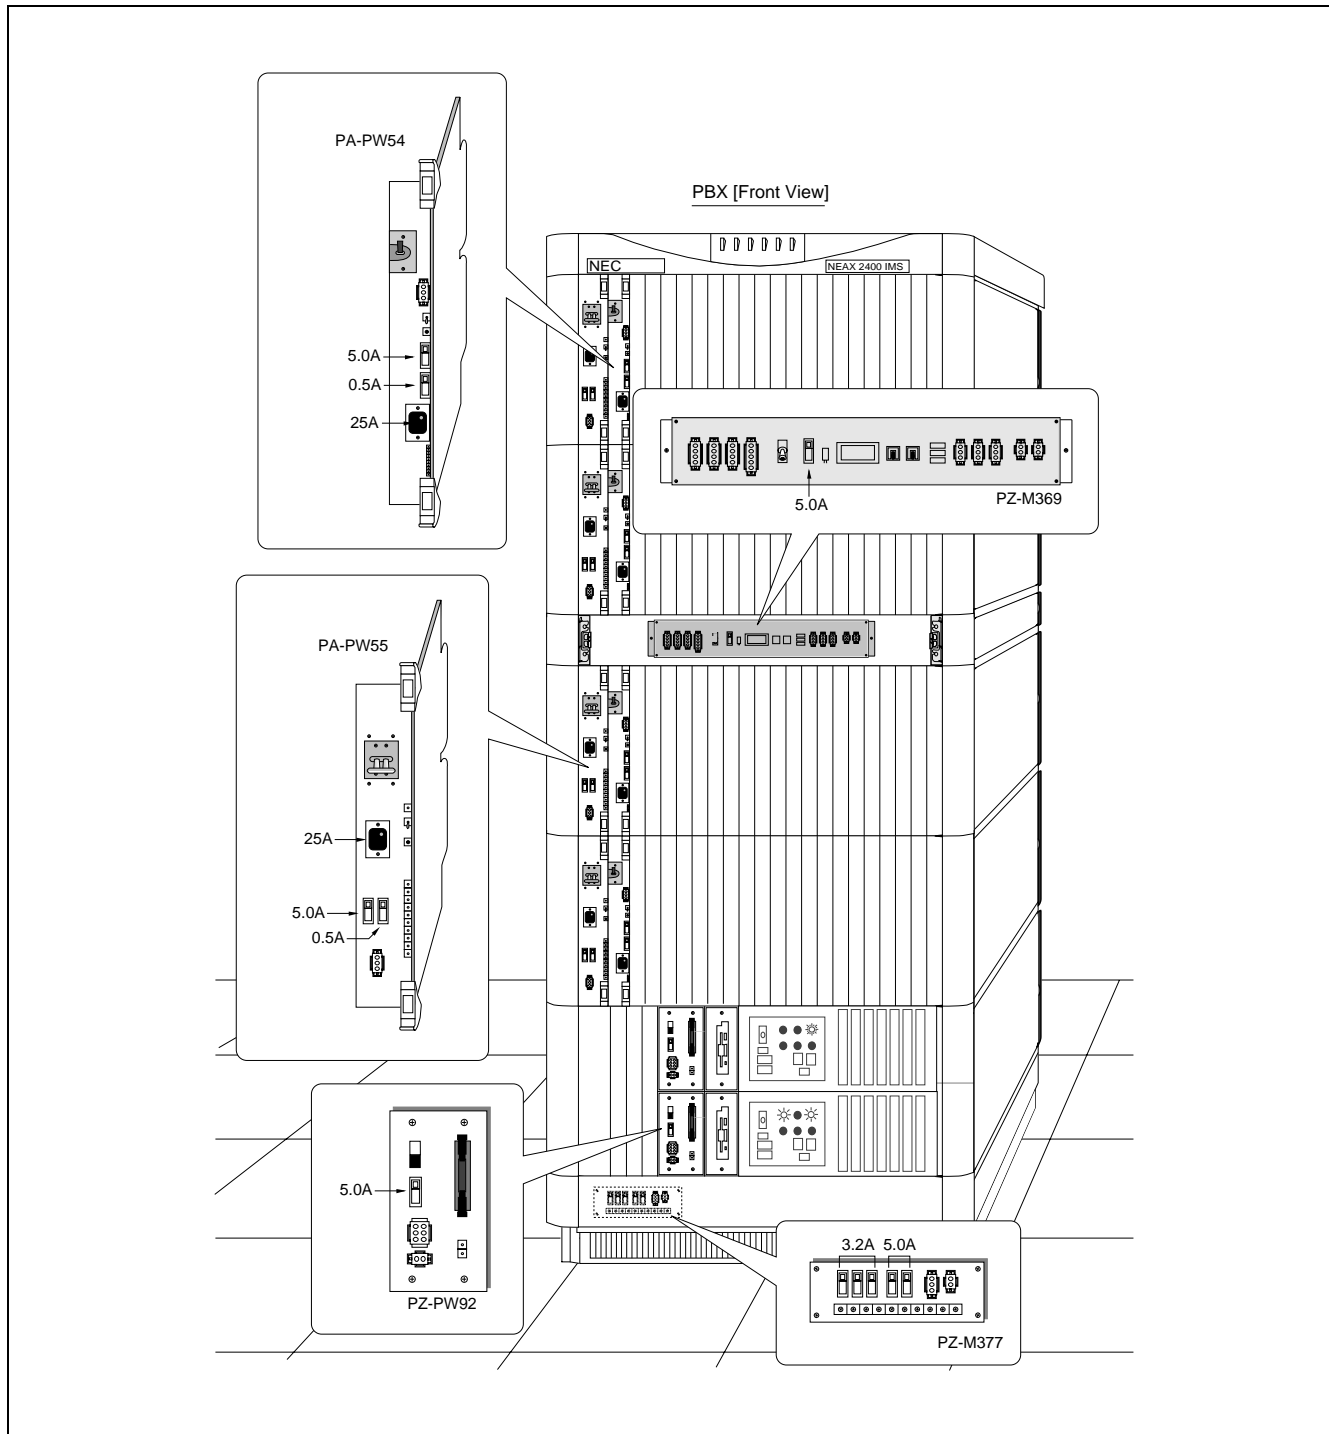
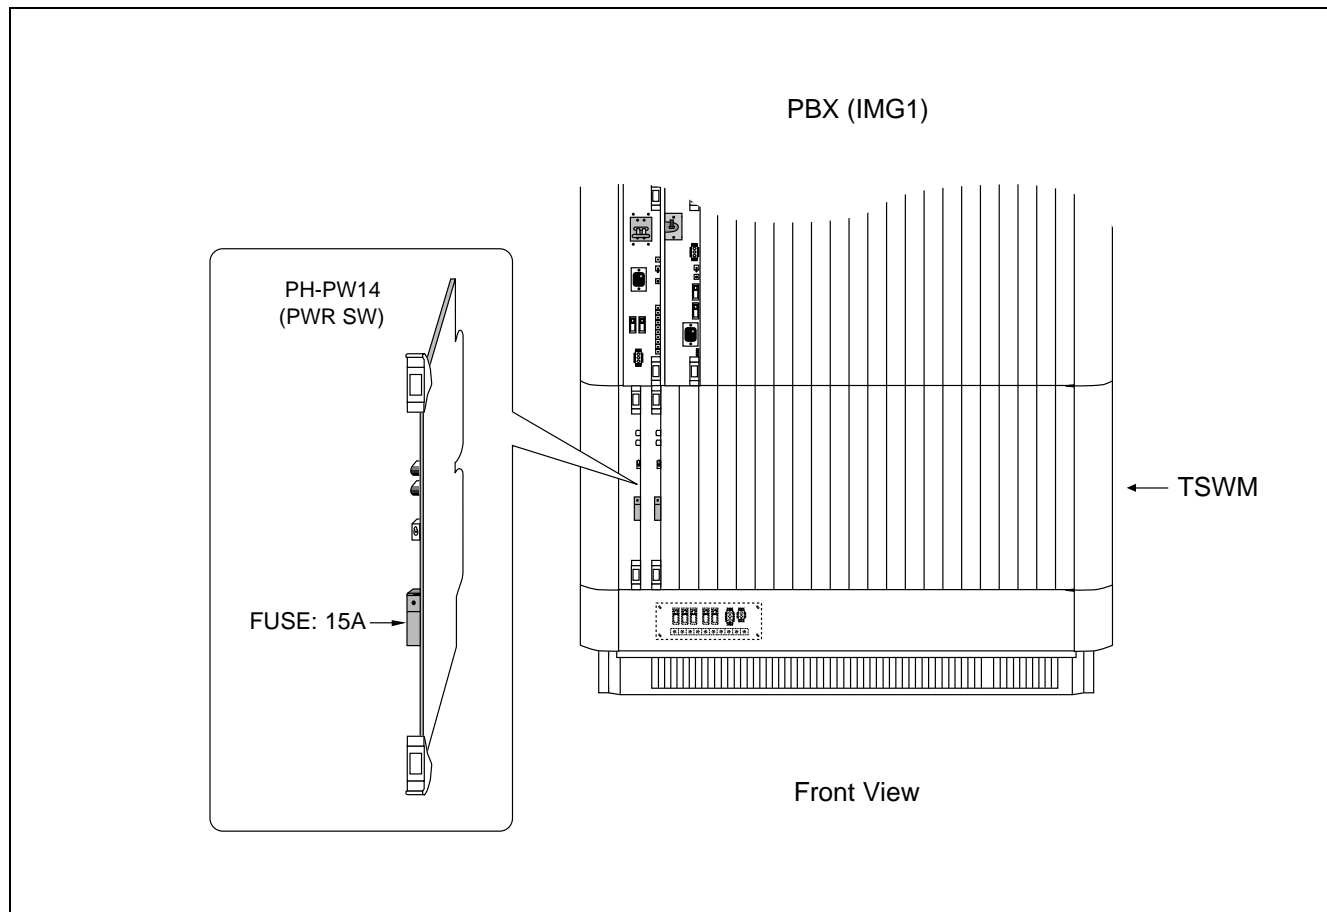

Figure 4-30 Fuse Locations Within System
Figure 4-31 Fuse Location Within TSWM
- (1) Confirm the blown fuse via the system message [6-A] or MJ lamp on the top of IMG0.
- (2) Replace the fuse with a new one, referring to Figure 4-30 and Figure 4-31.
Figure 4-30 shows the location of fuses within the system. In Chapter 4-30, the fuses are indicated by  or .
In the TSWM, the fuse shown in Figure 4-31 is used for the PWR SW (PH-PW14) card, which is housed in Slot No. 00 and/or 01.